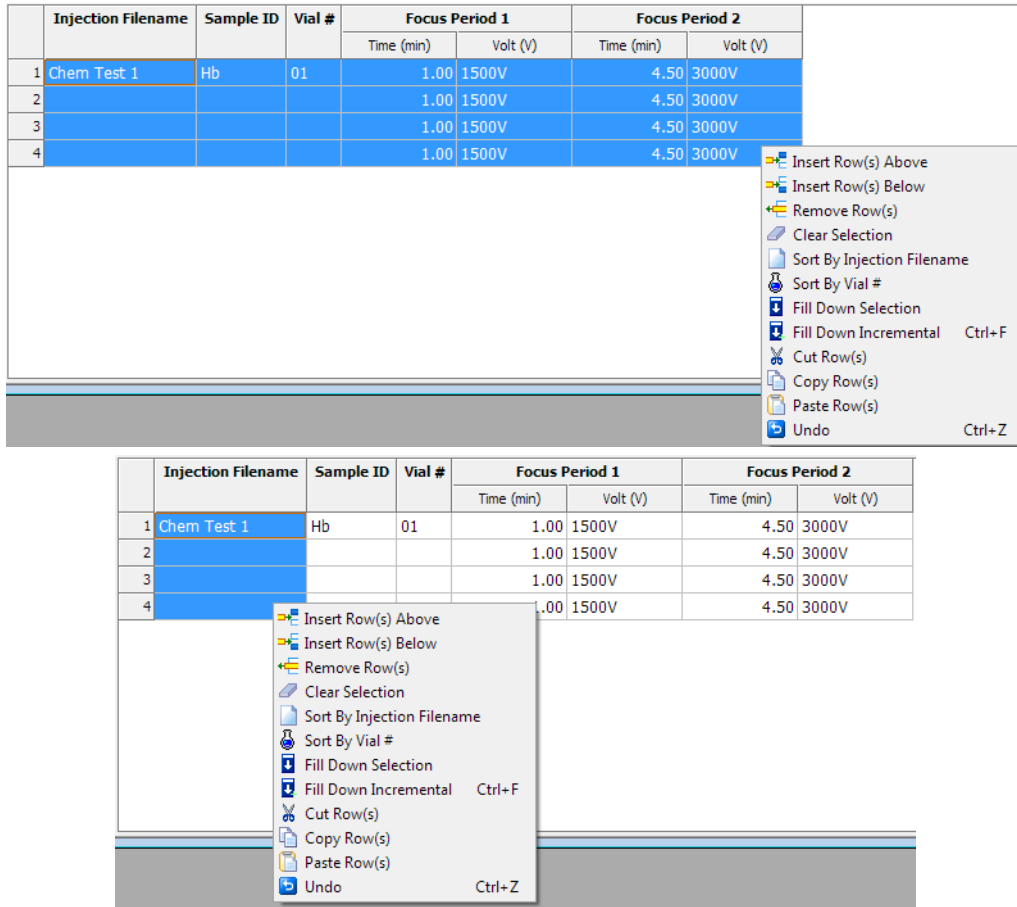

Figure 5-24: Selecting rows and cells to auto-fill the table.
- a. **To copy a row and use it to fill other rows** - Click the first cell of the row you want to fill from. Hold the mouse button down and select the rest of the cells in the row. Right click and select a fill option (Figure 5-24 top).
- b. **To copy a cell and use it to fill other cells in the column** - Click the cell you want to fill from. Hold the mouse button down and select the other cells in the column you want to fill. Right click and select a fill option (Figure 5-24 bottom).